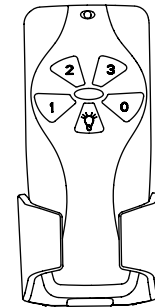

Fig. 27
Step 3. The buttons control the fan speed and light as follows:(Fig. 27)